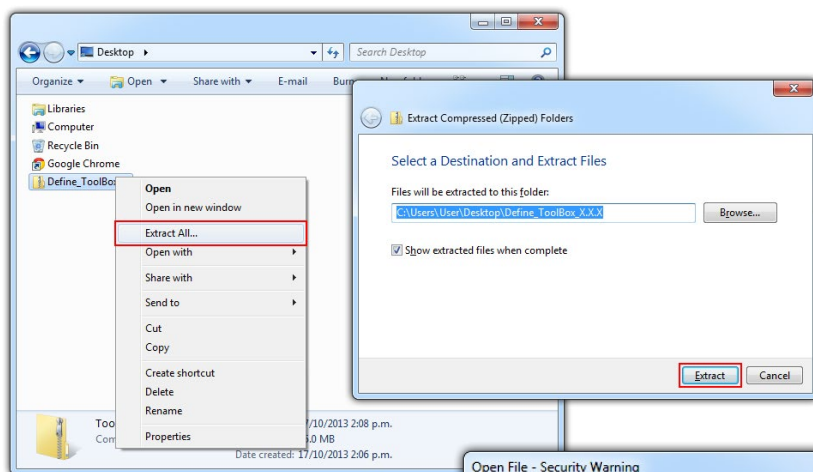

Fig 1
- B** Extract the install file from the zip folder (Fig 1). Right-click on the zip folder and choose **'Extract All'**, (or extract the file using another extraction utility of your choice).